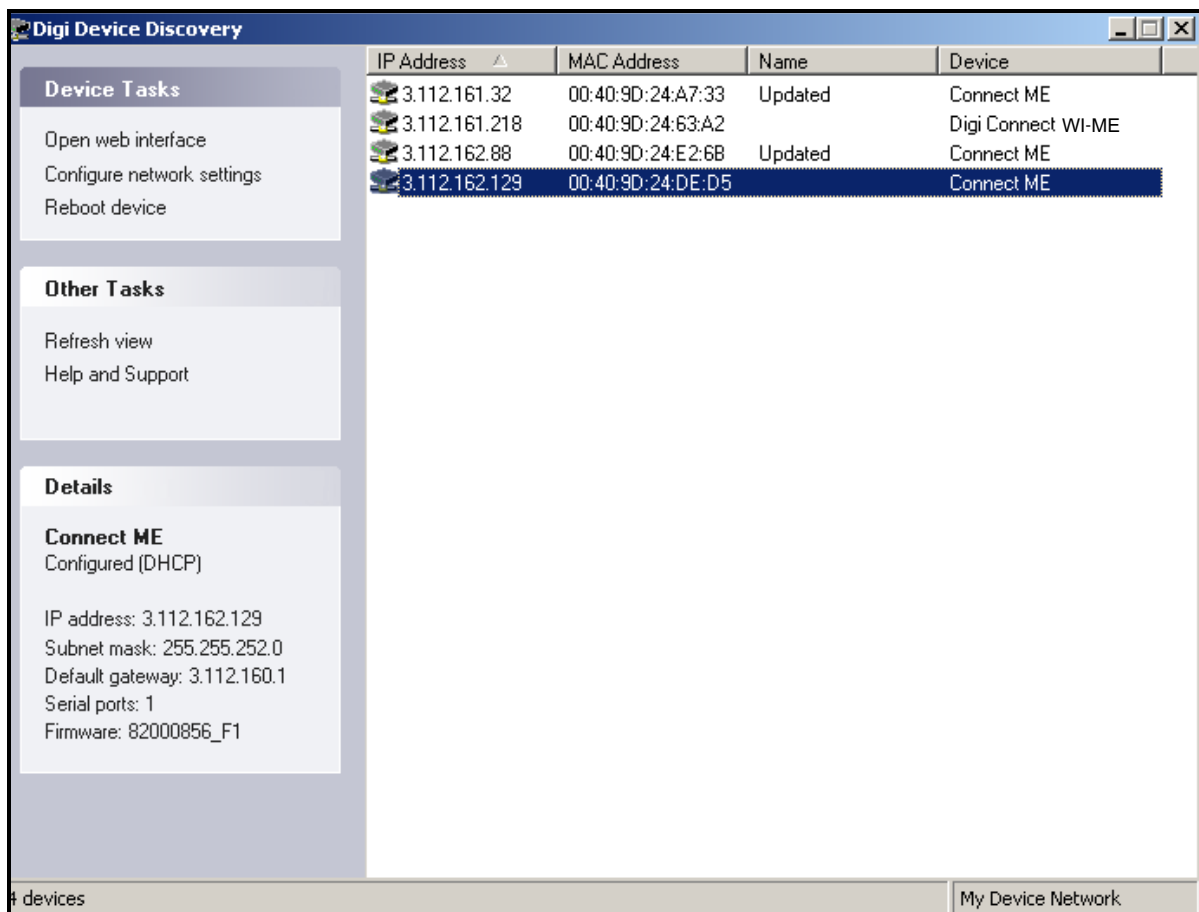

Figure 41: Finding the Assigned IP Address
1. Run the *Digi Device Discovery Program* (see Figure 41 below).